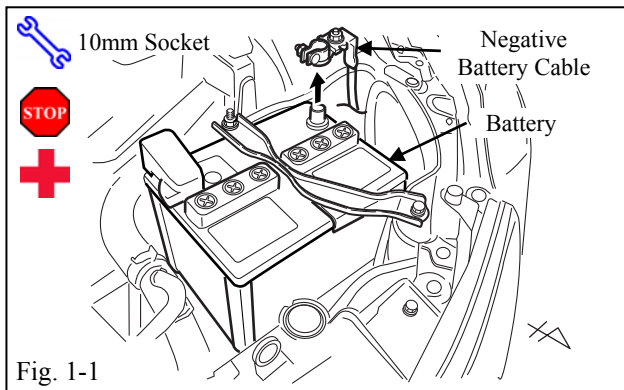

Fig. 1-1
- +** (b) Remove the Negative Battery Cable. (Fig. 1-1)
- STOP** (1) Protect the Fender before starting.
- STOP** (2) Note the Battery Cable position, as it will be re-installed in the same position.